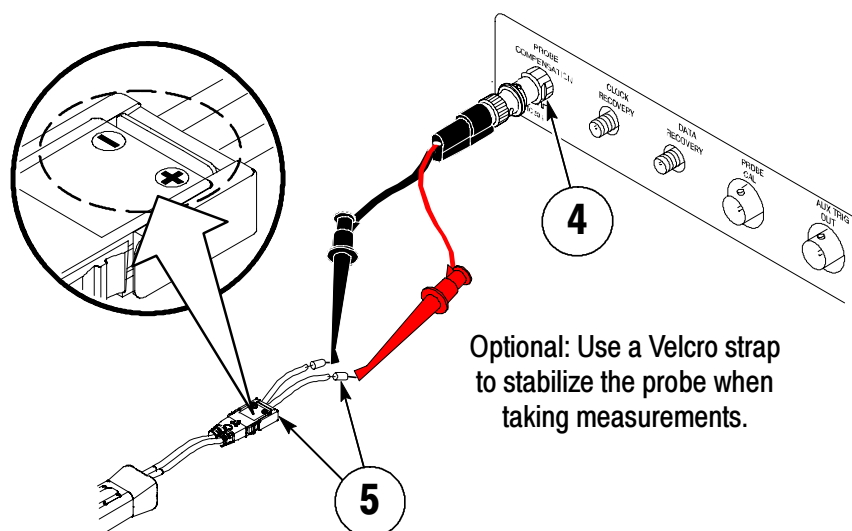

Figure 4: Connect to the probe for functional check
4. Connect the BNC (M)-to-Minigrabbers (with an SMA (M)-to-BNC (F) adapter) to the oscilloscope PROBE COMPENSATION connector. See Figure 4.